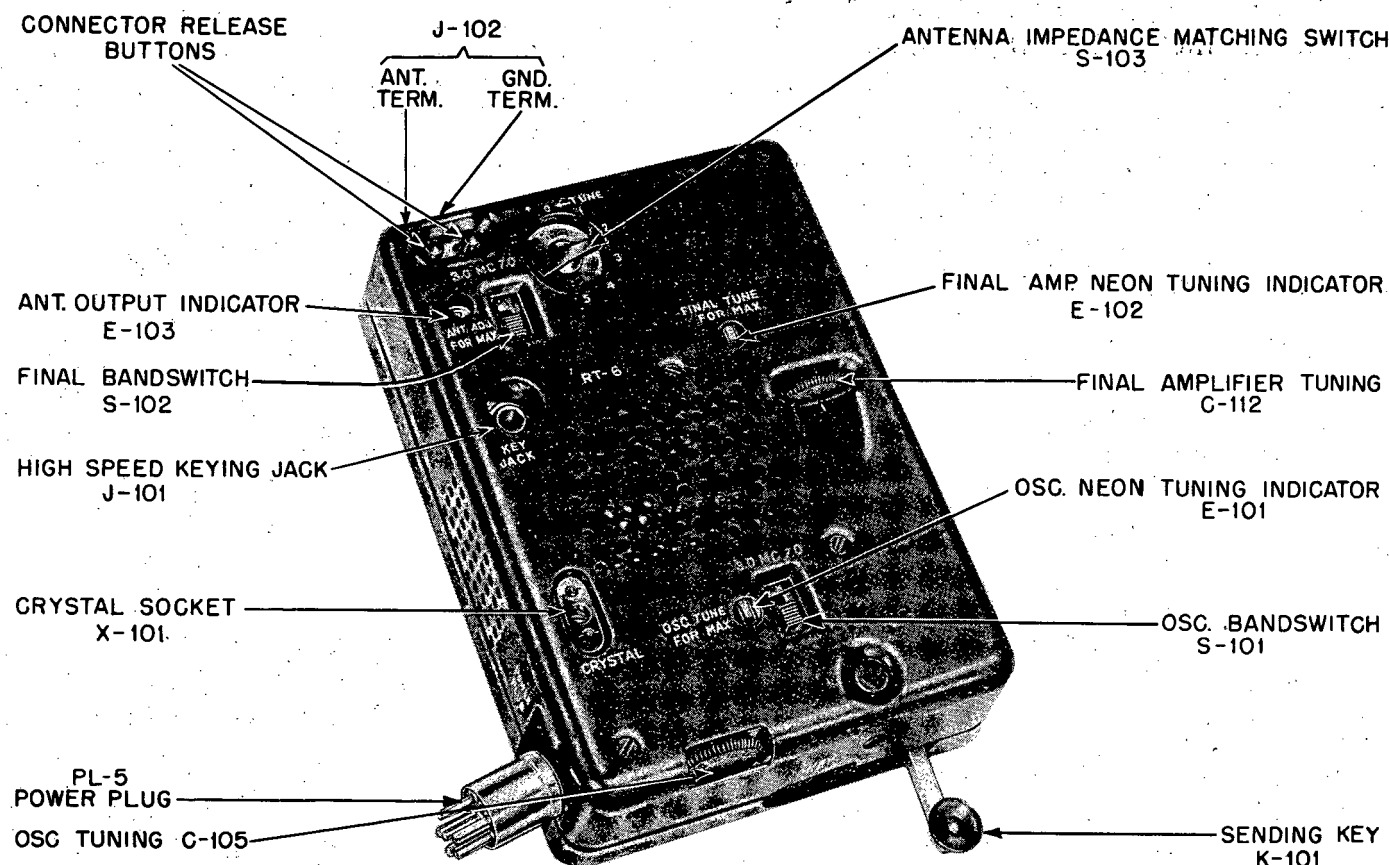

Figure 8. Transmitter RT-6 showing control locations
1. CONTROLS & FUNCTIONS (See Figure 8).
5. TUNING (Refer to Figure 8).
(1) by the sending key (Figure 8),
(2) by plugging the automatic high-speed keyer in KEY JACK (Figure 8), or
(3) by inserting frequency shift unit in the crystal socket for frequency shift operation.